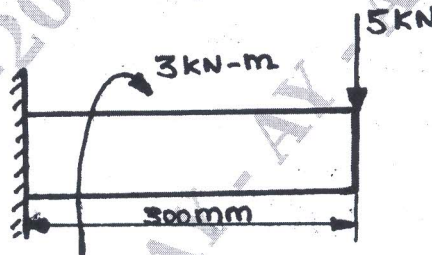

Fig Q1(a)
- 1 a. A circular rod of diameter 60mm is subjected to load as shown in Fig Q1(a). Determine the nature and magnitude of stress at the critical points.